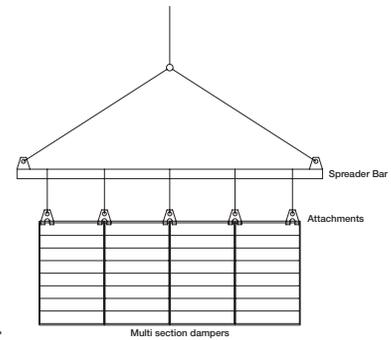

Figure 1
- 2) Lift or handle damper using sleeve or frame. Do not lift damper using blades or linkage. When handling multiple sections assemblies, use sufficient support to evenly lift at each section mullion (see drawing). Do not drag, step on, apply excessive bending, twisting, or racking. (See Figure 1)